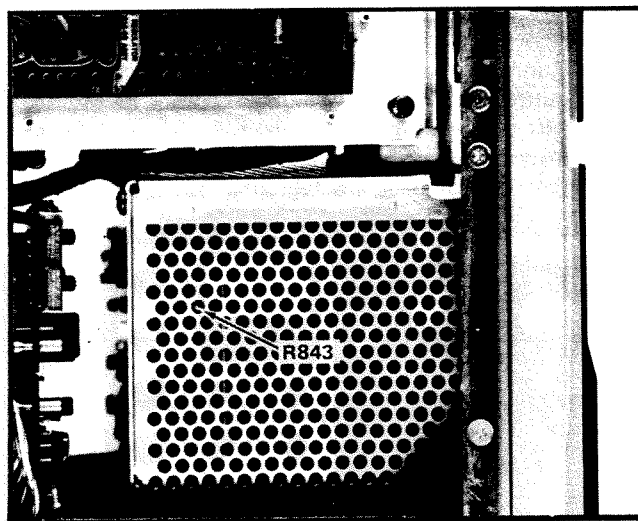

Fig. 5-3. Location of +75 Volt adjust R843.
- d. ADJUST— +75 Volt adjust R483 (see Fig. 5-3) for a meter reading of exactly +75 volts.